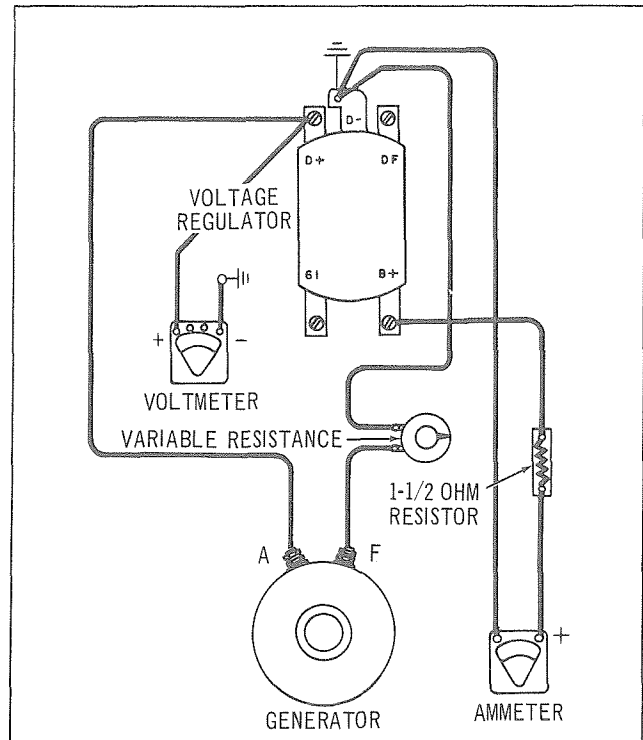

Figure 5I-7.
B. TESTING CUTOUT RELAY UNIT CLOSING VOLTAGE - SAME CONNECTIONS ARE USED AS IN TEST A (FIG. 5I-7)
3. Slowly turn field control toward "Direct" position. As the resistance is decreased, the voltmeter reading will increase. Note the highest reading on the voltmeter before the pointer "kicks". This will be the relay closing voltage. Repeat operation a few times, each time returning the field control resistor to "Open" position. If the closing voltage is not within specifications, (see Fig. 5I-1) replace regulator.
C. TESTING VOLTAGE CONTROL UNIT SETTING. (FIG. 5I-8)